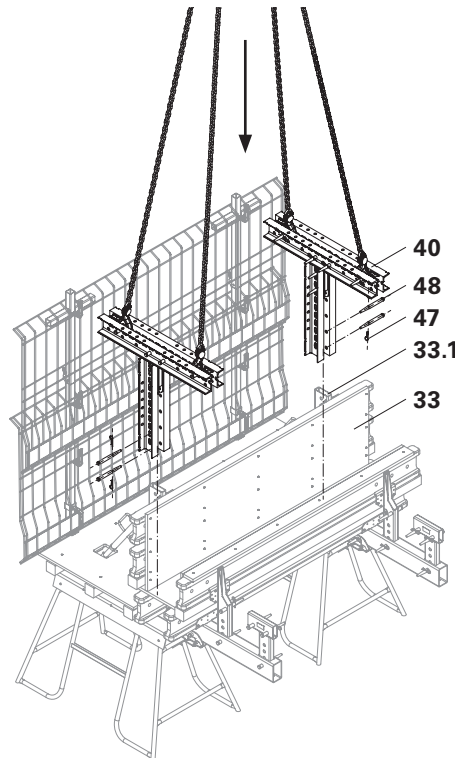
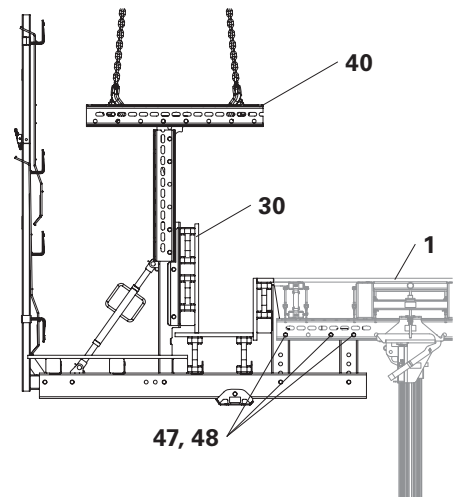

Fig. C1.08
Fig. C1.09
1. Attach 1x Assembly Gallows VD (40) each on the vertical profile for the External Girder (33.1) of the External Formwork VD 250/265 (33) and fix in position with 2x Fitting Pin \varnothing 21 x 120 (48) in each case and secure with Cotter Pin 4/1 (47). (Fig. C1.08)
2. Attach Edge Beam Unit 250/265 (30) on the Assembly Gallows VD (40) with 4-sling lifting gear to the crane.
3. Insert Edge Beam Unit 250/265 (30) on the slab table (1).
4. Mount Edge Beam Unit 250/265 (30) on each side using 3x Fitting Pin \varnothing 21 x 120 (48) and secure with Cotter Pin 4/1 (47). (Fig. C1.09)